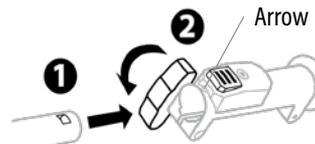

Fig. 3B
3. Align the installation hole on the attachment shaft with the arrow on the power head shaft. Ensure the desired installation hole is aligned with the shaft release button, and push the attachment shaft into the power head shaft until you hear a "click" sound, which means that the attachment shaft is mounted into place. (Fig. 3B)